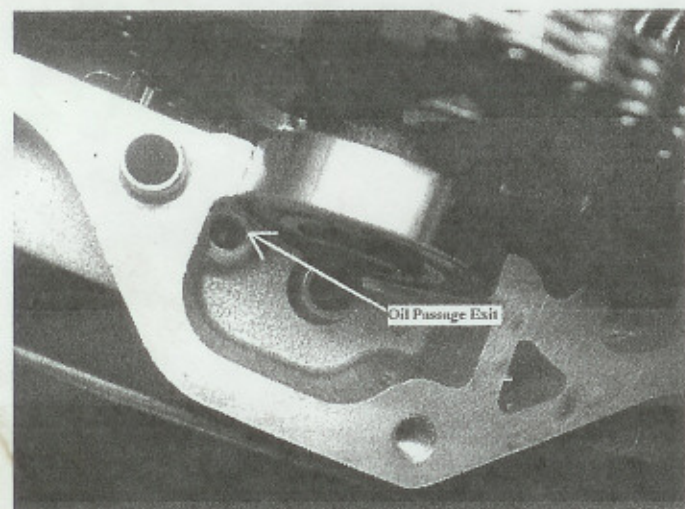

Fig. 6
- Locate the passage exit in the top of the cylinder head to the rear of the cam oil reservoir (Fig. 6)